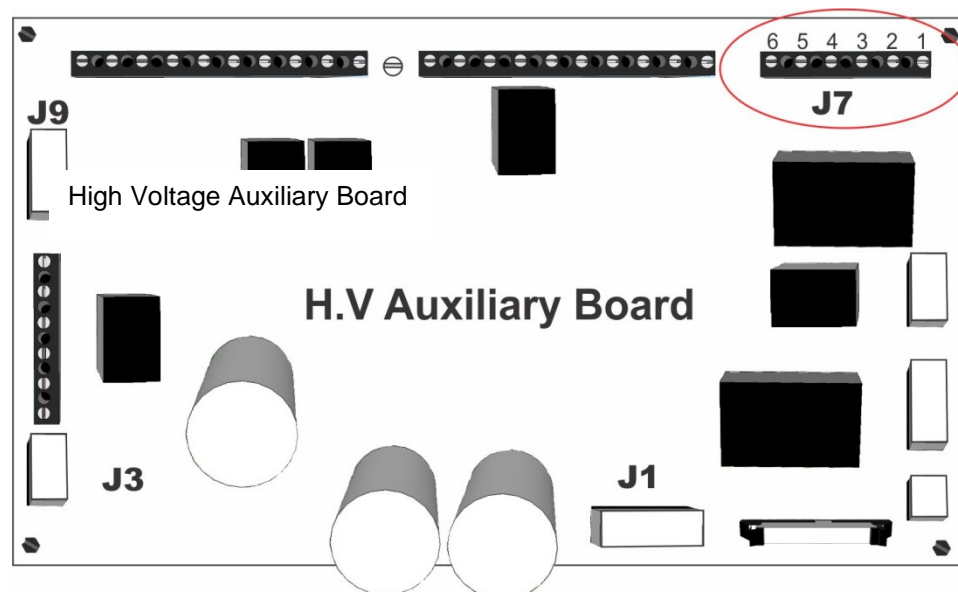

Figure 2-8: the connector of the X-ray tube stator cable for the low-speed starter
The J7 connector is designed for connecting the X-ray tube stator cable for the low-speed starter. It is located on the HV auxiliary board as shown in Figure 2-8.
1. Route the X-ray tube stator cable towards the J7 connector on the HV auxiliary board as shown in Figure 2-8.